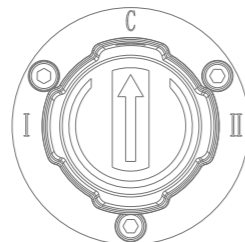

Fig.6 Gas Ballast Valve knob
In the presence of permanent gases, the gas ballast valve knob should be switched off (as Fig.6 gas ballast valve knob arrow C below). It may cause the rise of ultimate pressure (decrease of ultimate pressure) if open the gas ballast valve.
- When the vacuum system contains a small amount of condensable gas, open the gas ballast valve (refer to Fig 6. gas ballast valve arrow I or II),It can pump a small amount of condensable gas effectively. Close the gas ballast valve when the vacuum system pressure reduced to a certain value.